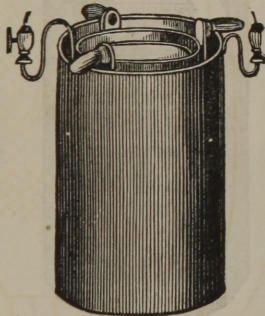

Fig. 30.
**No. 31. Daniels's Protected Battery.** The difference between this and Fig. 30 is, that the zinc cylinder is protected by a porous cup. By this arrangement the battery is more constant, and will remain in action for several days, but is not so powerful. Price, \$2.00.